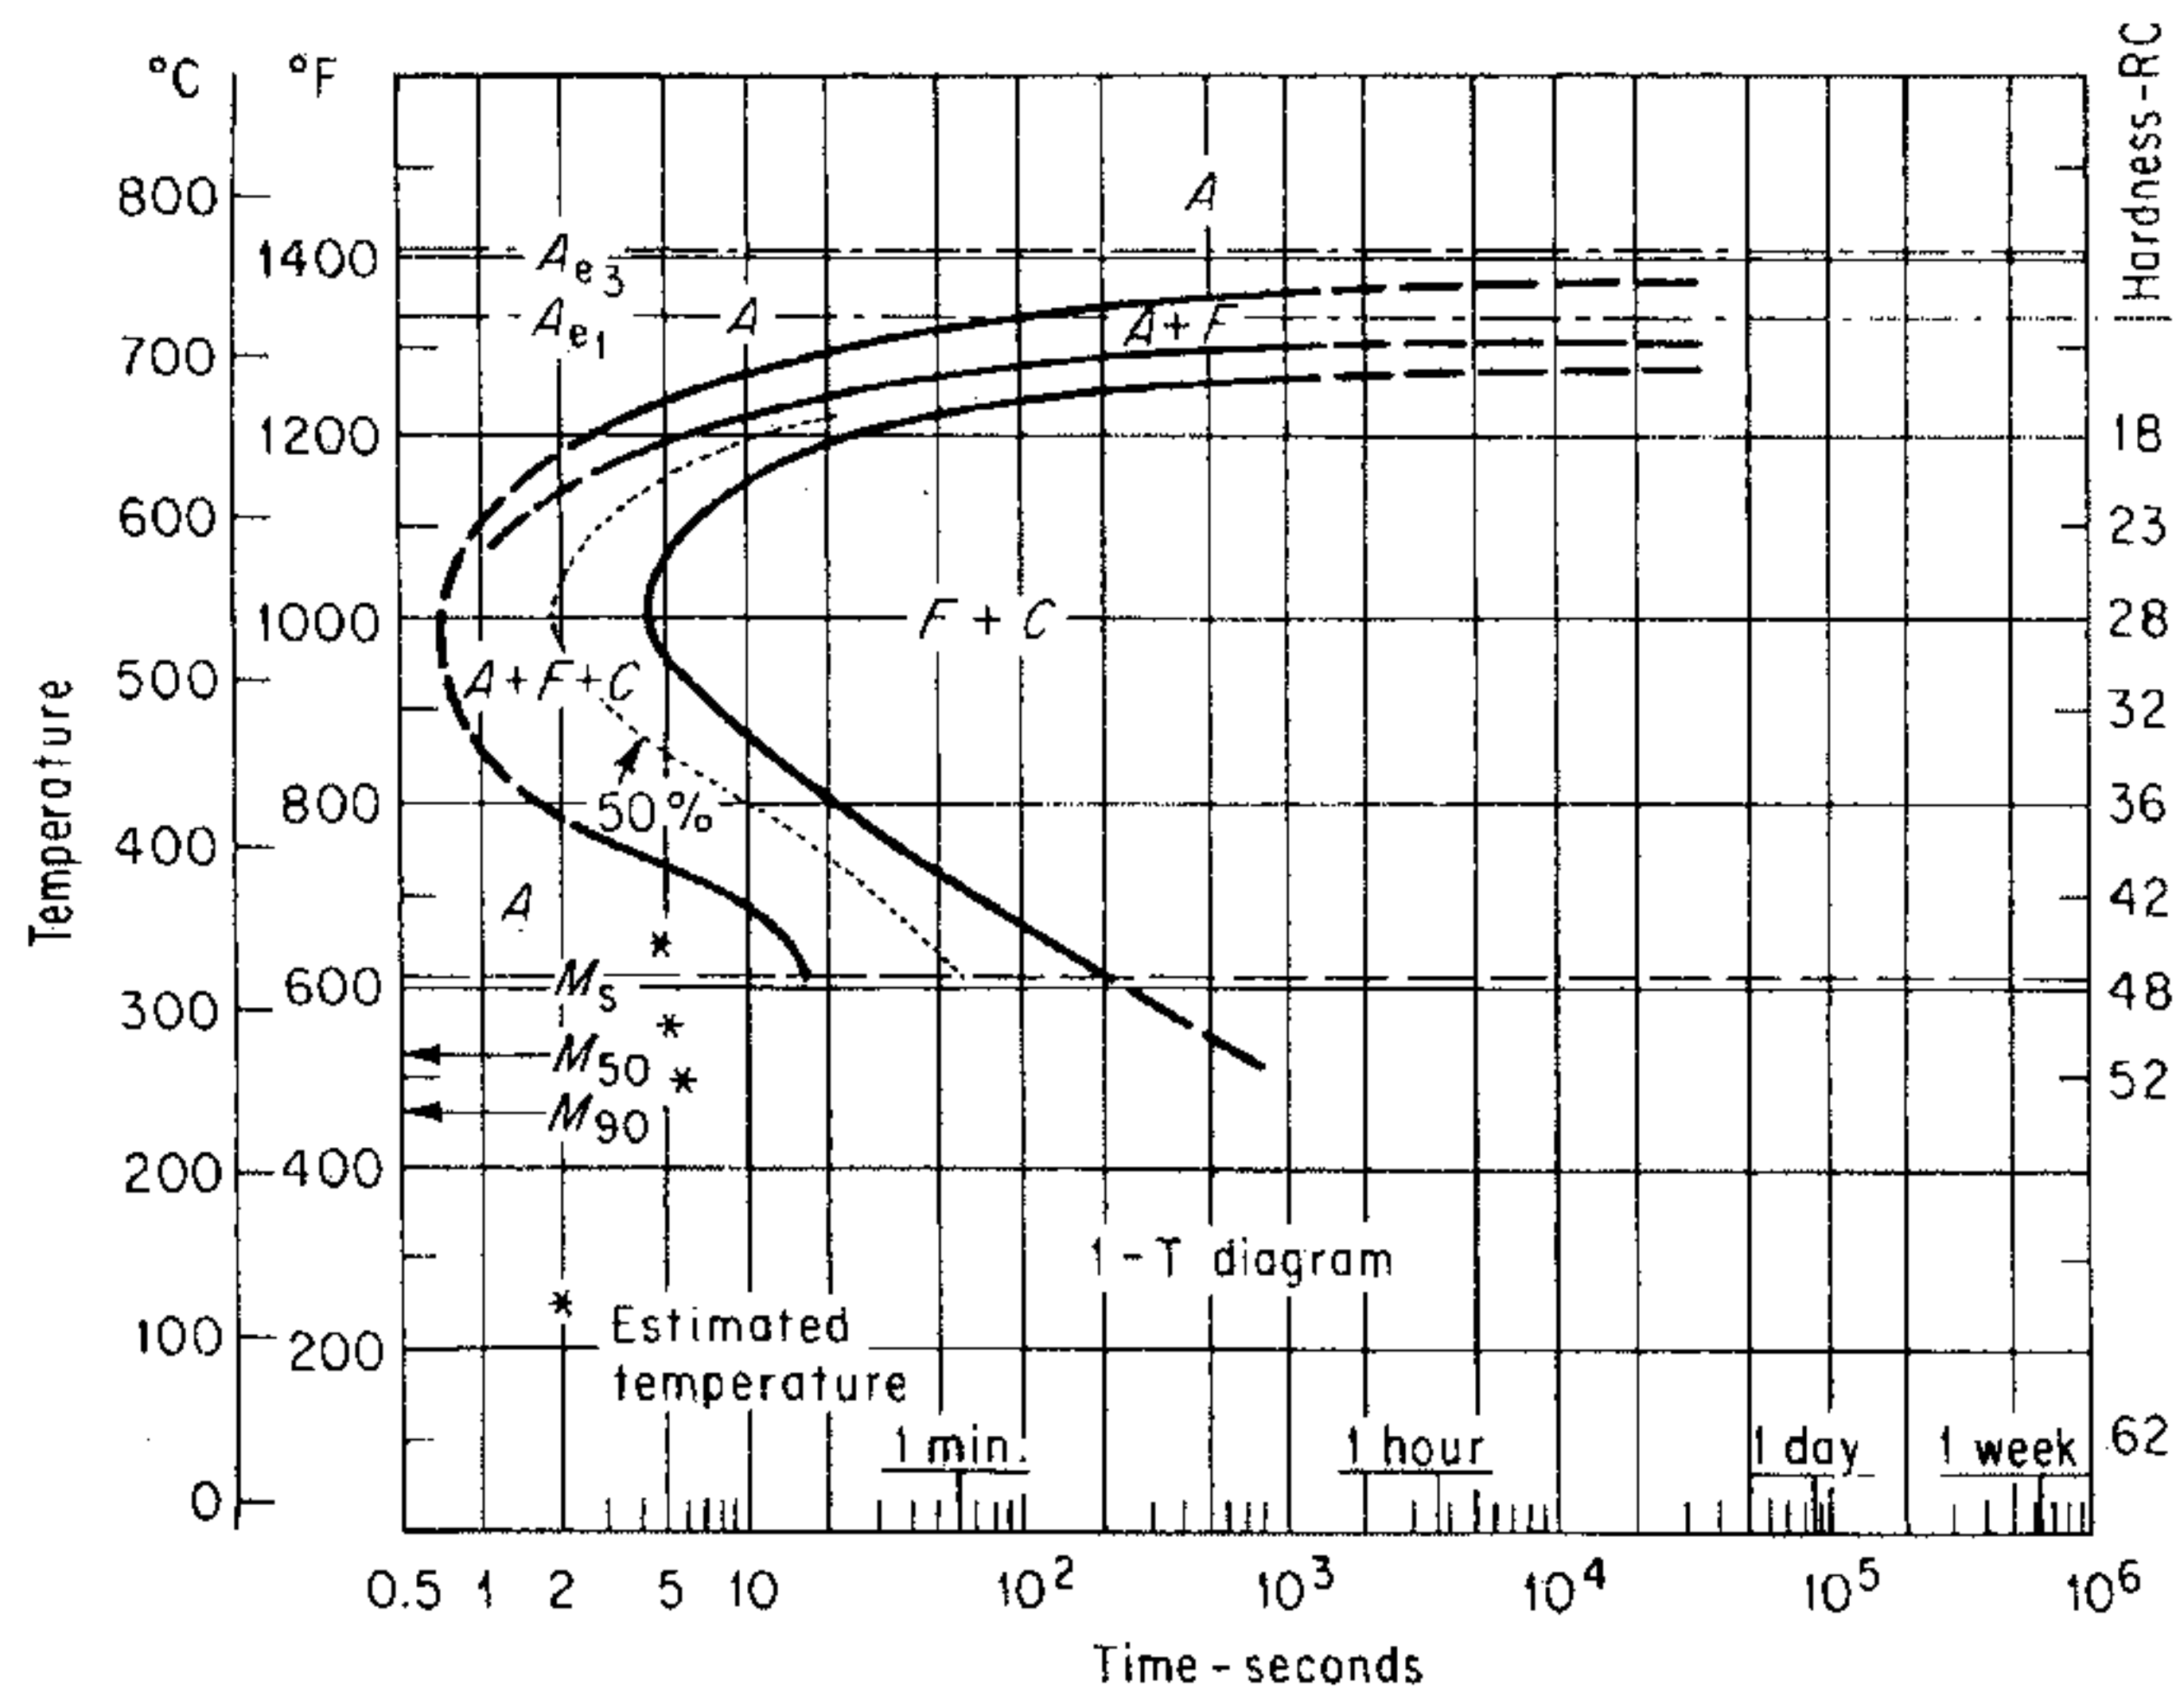

Figure 1 – TTT diagram for 1050 steel
- [b] Construct a heat treatment based on Figure 1 for 1050 steel TTT diagram and appropriate cooling medium for the following (size of the steel block is 24 mm x 24 mm x 24 mm):